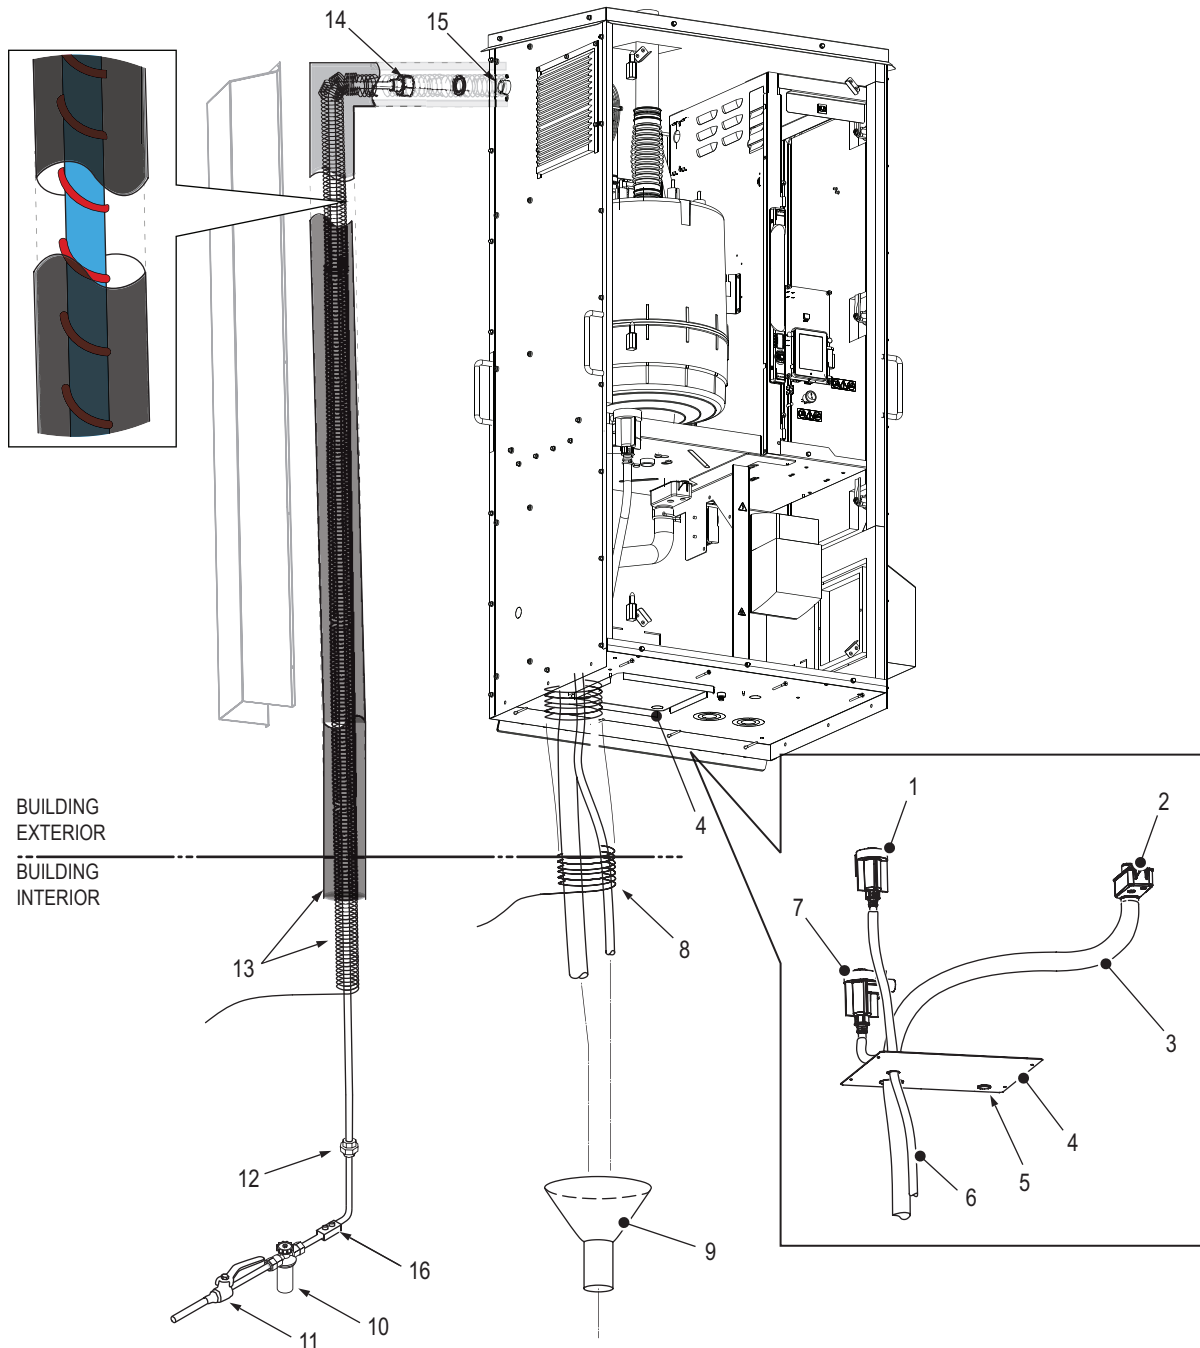

Fig. 14: Water Supply and Drain Connections (medium size EL-OC unit shown)
Connect the water supply and drain lines as described below. Refer to Fig. 14.
- Connect the drain hose (30 mm inner diameter, supplied) to the humidifier's drain connector with a hose clamp and feed the open end through the large pre-lasered knockout in the base plate down into the air gap funnel (see Fig. 14).
- Feed the open end of the drain hose (9.5 mm inner diameter) connected to the mechanical freeze protection valve (1 or 7) through the small pre-lasered knockout in the base plate down into the air gap funnel (see Fig. 14).